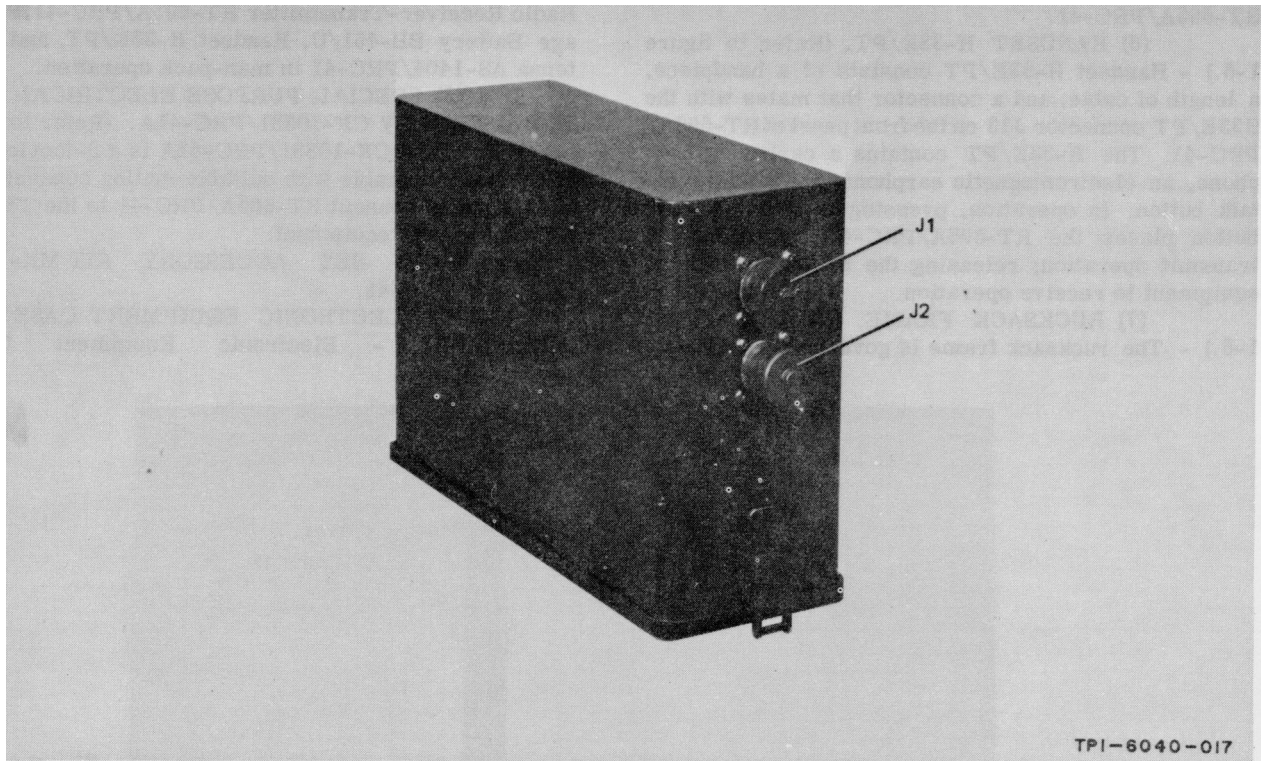

Figure 1-7. Power Supply PP-3700/PRC-41, OBLIQUE VIEW
(2) POWER SUPPLY PP-3700/PRC-41. (Refer to figure 1-7.) - The circuits of Power Supply PP-3700/PRC-41 are contained in an aluminum case having the same dimensional configuration as Storage Battery BB-451/U. Power Supply PP-3700/PRC-41 is used to provide the 26.5-volt dc primary power for Radio Receiver-Transmitter RT-695A/PRC-41 where either 115- or 230-volt, 50- to 400-Hz power is available. Refer to paragraph 2-5b(1) of the Installation and Operation Technical Manual for Radio Set AN/PRC-41A, NavShips 0967-872-5010. This component may be clamped directly to the rear of the RT-695A/PRC -41, or its primary power may be made available by use of Power Electric Cable Assembly CX-8686/PRC-41 connected between dc connector J2 on the side of the PP-3700/PRC-41 and the rear of Mounting MT-2976/PRC-41. When operating the RT695A/PRC-41 on the test bench with Receiver-Transmitter Case CY-3884/PRC-41 removed, primary power may be applied to the RT-695A/PRC-41 through the dc maintenance adapter. Power Supply PP-3700/ PRC-41 may also be mounted on Mounting MT-2977/ PRC -41.